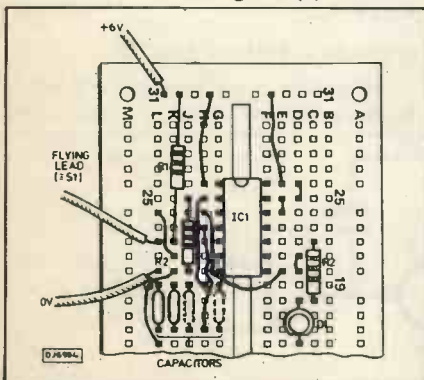

Fig. 12 Breadboard layout of astable circuit in Fig. 10.
In Fig. 12 the fourth (unused) gate has its inputs (pins 12, 13) connected to the 6V supply.
1. Set up the circuit as in Fig. 12, with the ENABLE input wire plugged into the 0V rail. There are two 470n capacitors connected in parallel, giving a total capacitance of 940n. There is room for two more such capacitors to be added in parallel, as shown. The state of the circuit is shown by the led, or you can use the logic probe described last month.